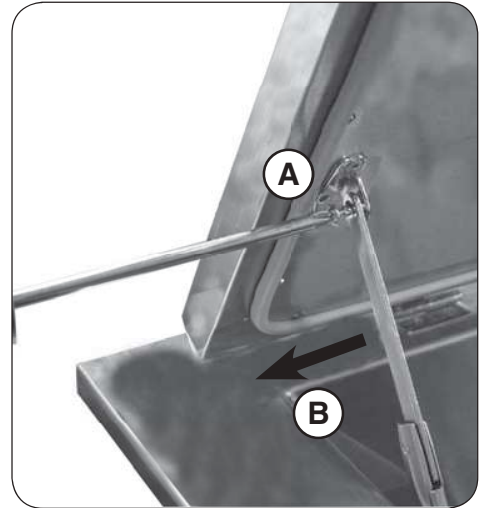

Fig. 3-1 Remove hinges
1. Remove screws from the soft down hinges on the inner left and right side (see Fig. 3-1, A).
2. Firmly press the soft down hinges to the left until they clear the bracket pins (see Fig. 3-1, B).